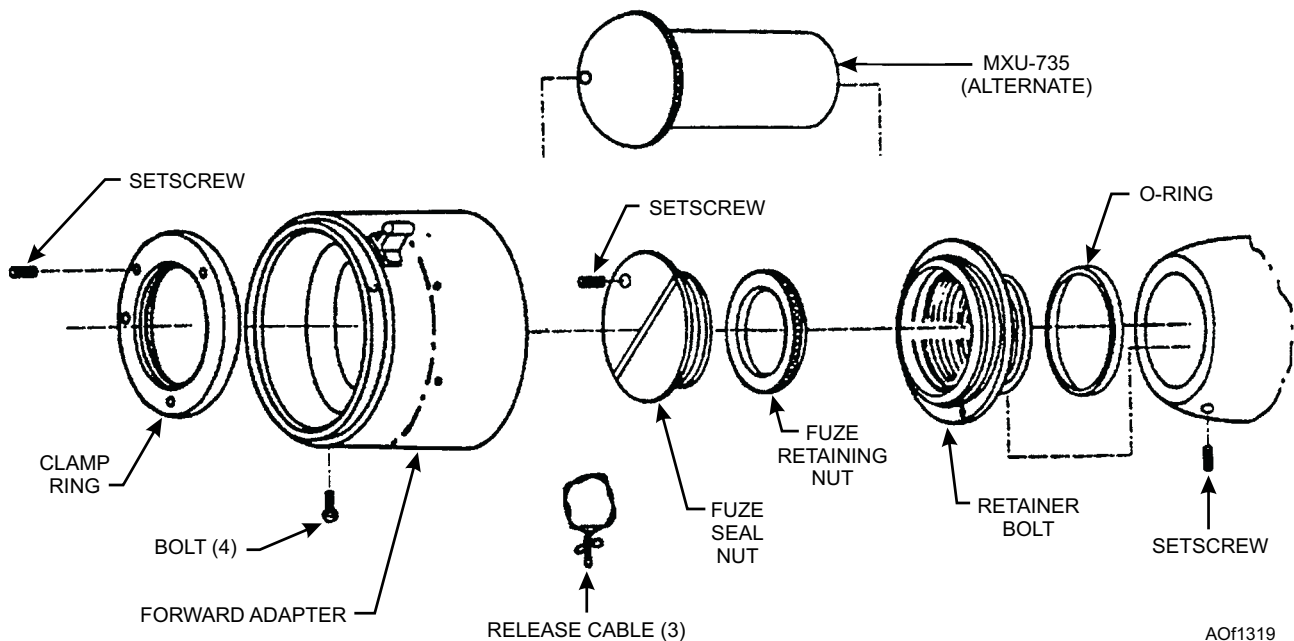

Figure 13-19.—Forward adapter assembly with fuze retaining bolt.
Install forward adapter assembly (fig. 13-19) on nose of bomb as follows:
5. Install fuze seal nut in retainer bolt and tighten (fig. 13-20) setscrew or install MXU-735 and tighten to required torque (fig 13-19).